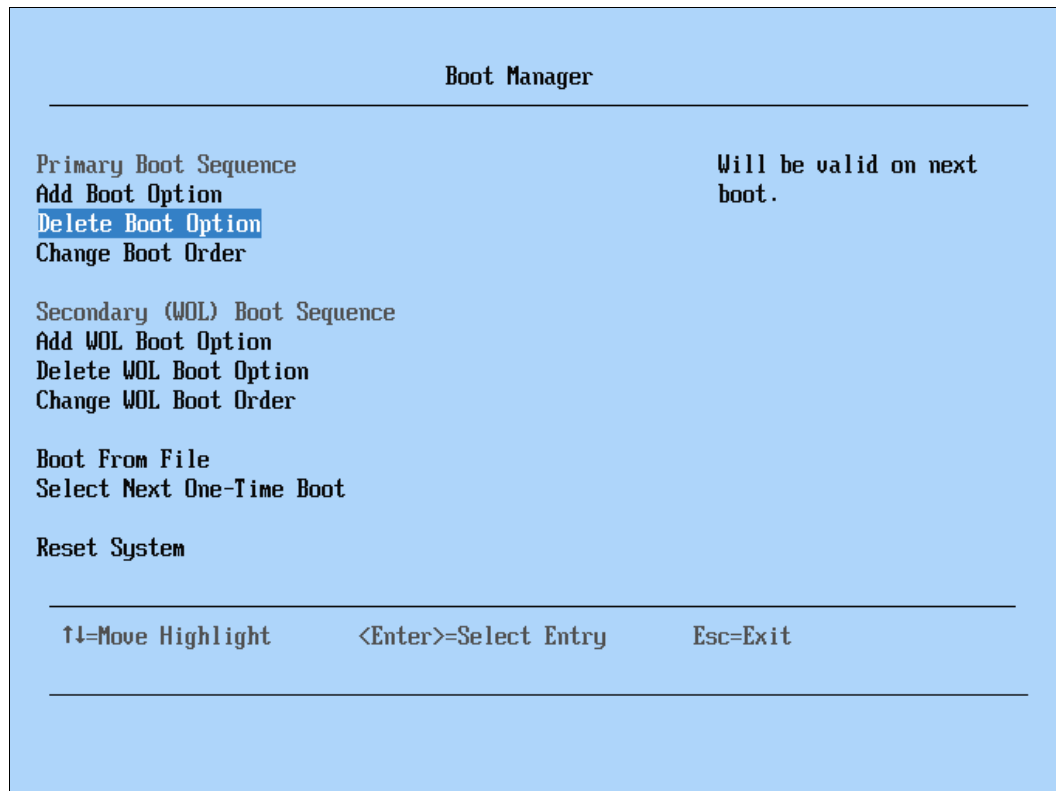

Figure 8-33 Selecting Boot Manager menu
2. Navigate to the **Boot Manager** menu by selecting it from the System Configuration and Boot Management main menu. The Boot Manager displays, as shown in Figure 8-33.